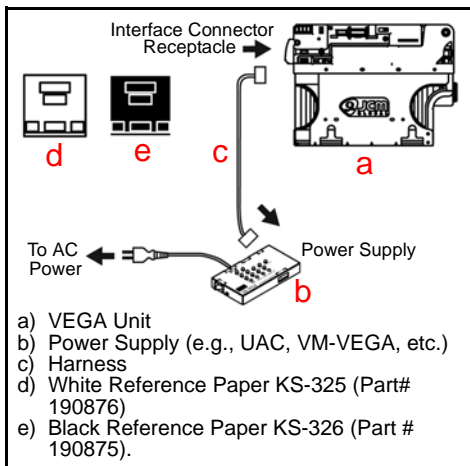

Figure 11 Non-PC Calibration Tools and Cabling
1. Figure 11 illustrates the Calibration connection Tools and Harness configurations necessary when calibrating WITHOUT using a PC.